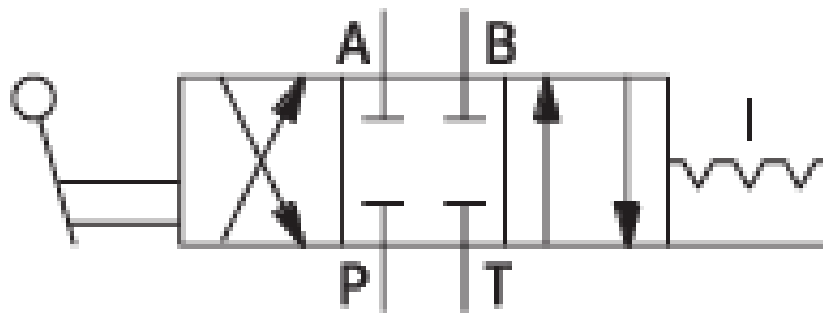

Figure 5.3: Symbol for a 4/3-way DCV with a closed center position. All ports are blocked in the middle.
- **Application:** This allows you to stop and **hydraulically lock** a cylinder in any position mid-stroke. This is essential for lifting and holding applications. See Figure 5.3.